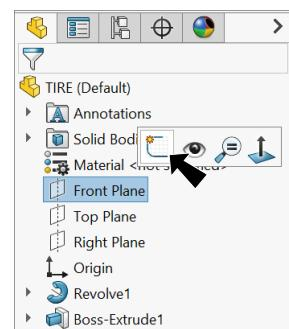

Fig. 18
Step 1. Click **Front Plane**  in the Feature Manager and click **Sketch**  on the context toolbar, **Fig. 18**.